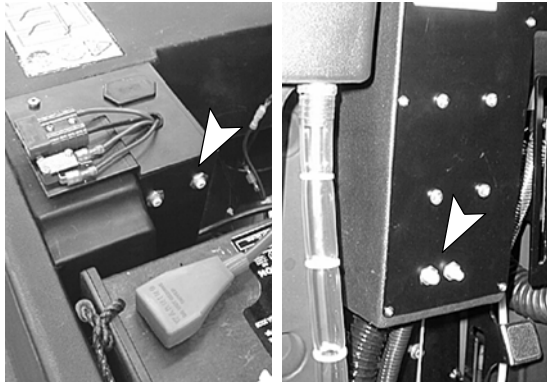

FIG. 15
The machine is equipped with (4) circuit breakers to protect motors from damage. If circuit breakers should trip, they cannot be reset immediately. Determine cause, allow motor to cool and then reset. The brush motor circuit breakers (35A), located near charger plug, will trip due to excessive overload on pad. Turn over or change pads if breakers should trip. The main circuit breaker (10A) and vacuum/drive motor circuit breaker (35A) are located at rear of machine (Figure 15).